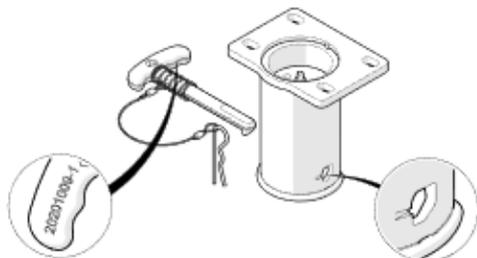

Figure 1
To prevent any incorrect handling, the two spindles are different and fitted with a locking pin at their extremity. They are identified by a number engraved on the sleeve. The corresponding clevises have one or two notches (number corresponding to that engraved on the sleeve) at the outlet of the spindle (see Figures 1 and 2).
1. Present the spindle facing the inlet drill hole on the corresponding clevis (Figure 1 and 2), with the locking pin facing downwards.